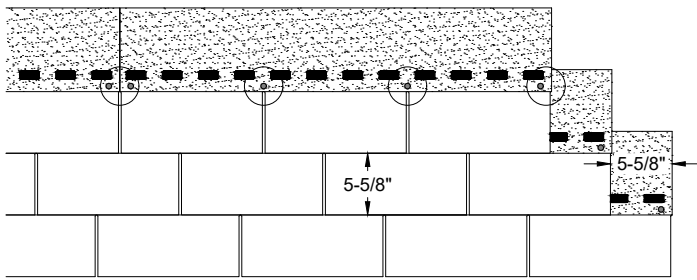

Figure 9 - 3-Tab, 4-Nail Fastening Pattern
3-tab Nailing Pattern: Under normal conditions, use four (4) fasteners for each full shingle. Fasteners must be placed above the cutouts and below the seal-down strip, approximately 1" (25 mm) in from each end of the shingle, with the two remaining nails above the cutouts and below the sealant. (See Figure 9)